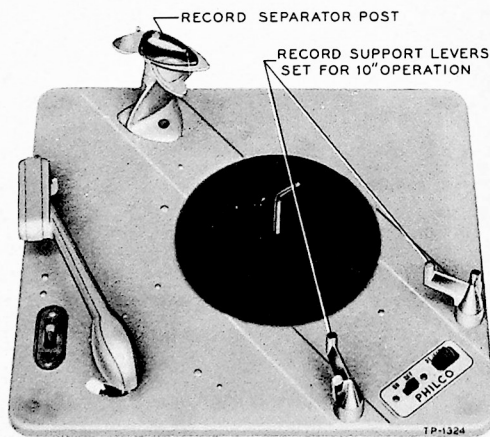

Figure 4. CHANGER SET FOR 10" AUTOMATIC OPERATION
6. Set the record support levers and record separator post in the 10" position, as shown in figure 4. Place a good 10" record over the spindle and onto the support levers and separator post. Set the manual-automatic lever to **AUT**, turn on the motor and operate the **REJECT** control. The record should drop smoothly and the tone arm should lower so that the needle strikes the record approximately  $\frac{1}{8}$ " in from the outside edge.